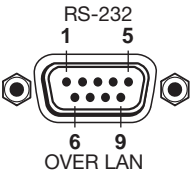

Figure 11. Pin Assignment for the RS-232 Over LAN Port
If you want the VN-Matrix units to pass serial data or control signals, such as for serial control of a projector, connect RS-232 devices to RS-232 Over LAN port on all codecs that are hosting controlled or controlling devices. Figure 11 shows how to connect a host device to the pass-through device to the RS-232 Over LAN port (② on figure 2).